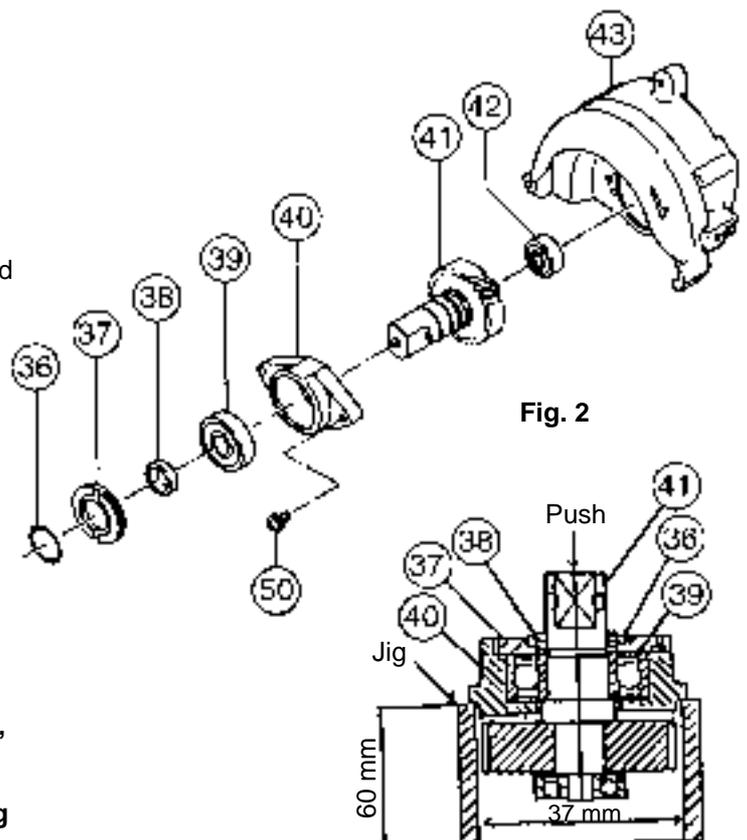

Fig. 2
- ① Loosen the two Seal Lock Screws M5 x 25 **[50]**, and tap gently on the end surface of the Gear Cover **[43]** with a wooden or plastic hammer to loosen and remove the Bearing Holder **[40]**, the Spindle and Gear Set **[41]** and related parts, as shown in Fig. 2.
- ② Support the Bearing Holder **[40]** with an appropriate jig, and push down on the end surface of the spindle to take off the Spindle and Gear Set **[41]**, Distance Piece **[38]** and O-Ring **[36]** with a hand press.